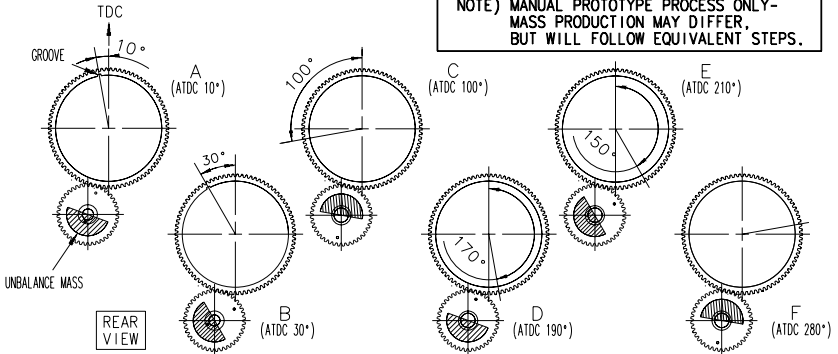

FIG. 2 BACKLASH MEASUREMENT LOCATION
2. ROTATE CRANKSHAFT AND TAKE IT TO THE POINT 10° AFTER TDC (FIG. 2 A). THEN FIX CRANKSHAFT.